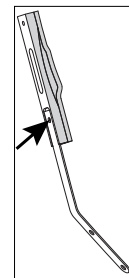

Figure 6
3. Remove the bolt on the brake pad with a 3 mm hex key (Figure 6).